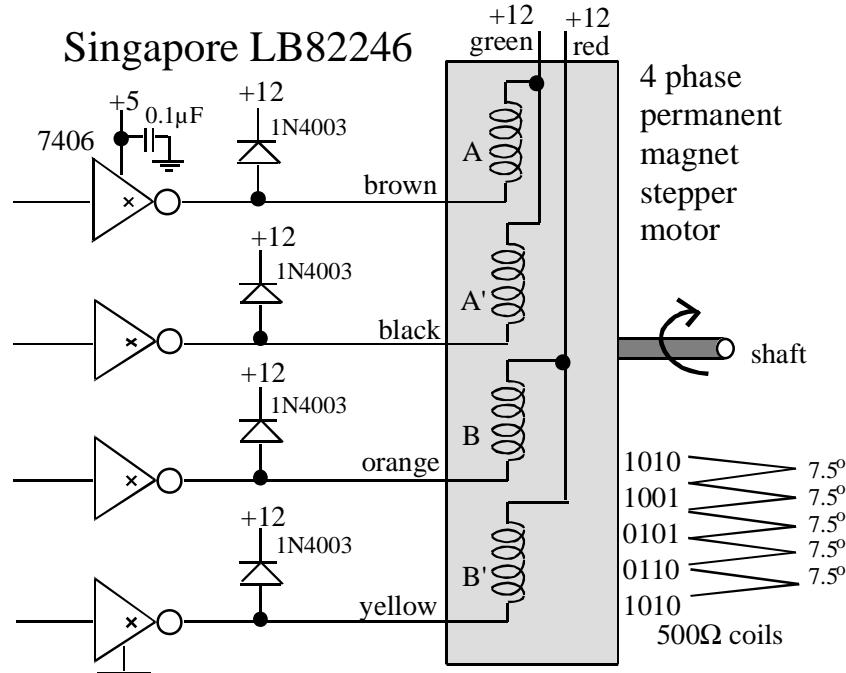

Figure 5.2. Singapore LB82246 Stepper Motor Specifications
this before your lab period, without any connections to the 6812 board. Design the hardware interface between the 6812, and prepare a circuit diagram labeling all resistors and diodes. An interface for a Singapore LB82246 stepper is shown in Figure 5.2. Include pin numbers and resistor/capacitor types and tolerances. Be sure the interface circuit you select can sink enough current to activate the coil. Make sure you have all the parts you need before lab starts.
1. Stepper motors other than the *Singapore LB82246* will have different coil resistances and different coil voltages. Be sure the interface driver (e.g., the 7406 in Figure 5.2) has an I_{OL} large enough to deliver the needed coil current. Please do not use the Adapt812 +5V regulated supply to run external components that require more than 100 mA of current. Although many steppers will operate at voltages less than the rated voltage, the torque is much better when using the proper voltage. Remember to actually measure the coil current rather than dividing voltage by resistance.